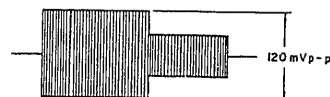

Fig. 4-103
1) Record Chroma Level Adjustment (Figs. 4-103, 4-151)